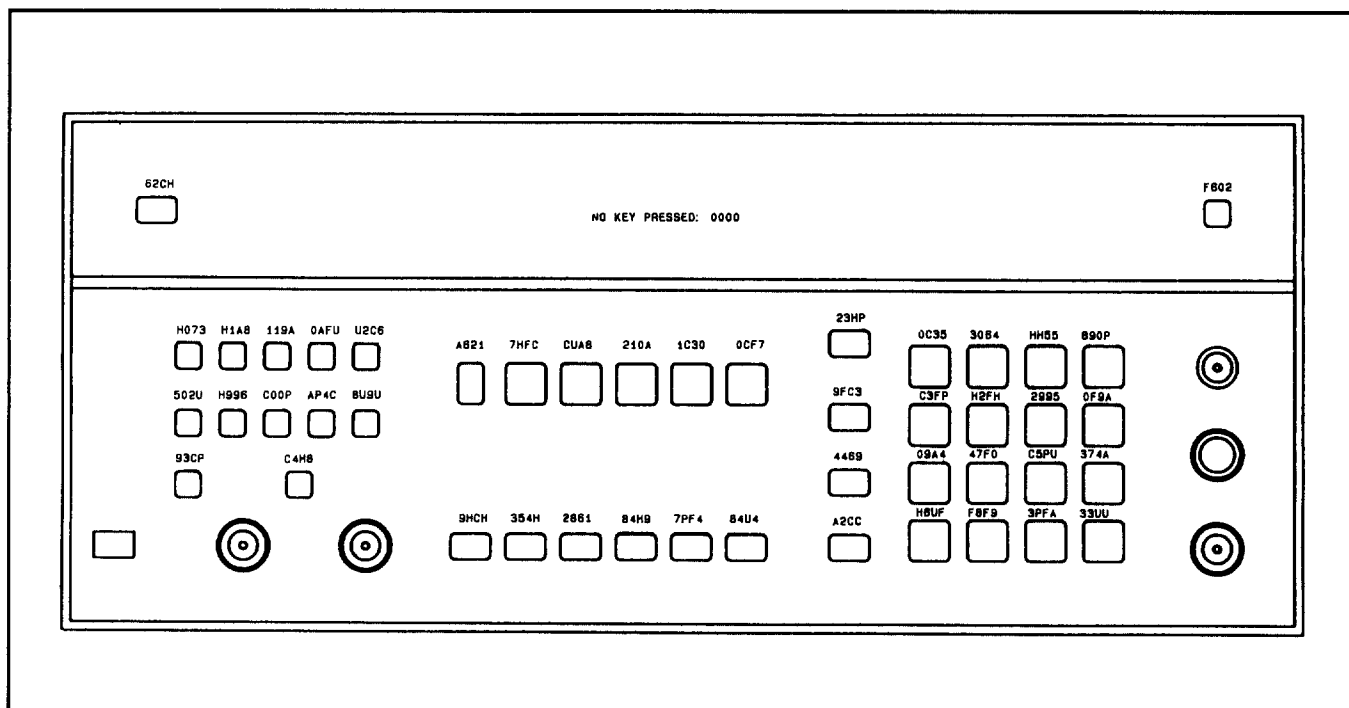

Figure 8F-33. Signatures, $\sqrt{3}$ Step 6
6. Press the front-panel keys and note the signature. The signatures are documented in Figure 8F-33.